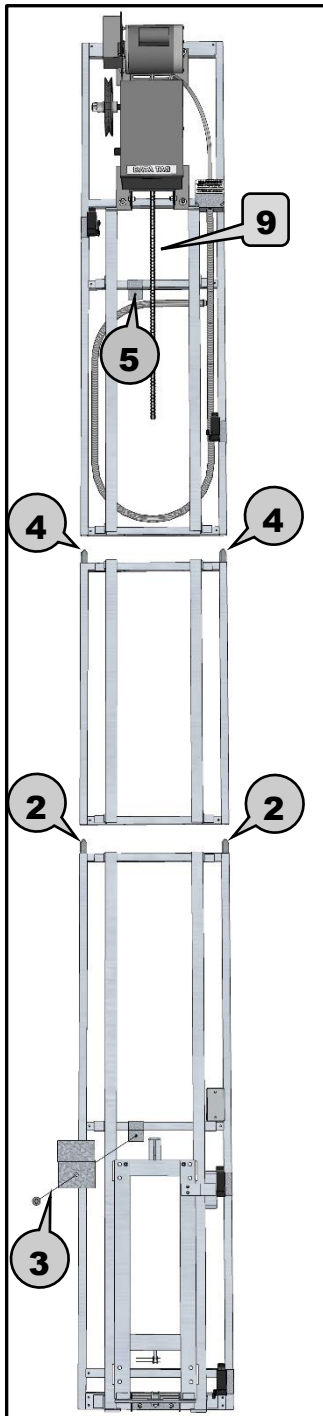

Figure 4
NOTE: For motor on top configuration, make sure the chain bundle is positioned down the track & rail in between track and not behind rail. (see Page 11, Figures 4 & 5, 9)
- 2** Drop two (2) stacking pins into the top of the two outer vertical tubes of the bottom section, and position section centered against the mounting wall. (**see Figure 4**)
- 3** Use provided frame clip and 2" screw to temporarily hold section in place against the wall. Make sure screws go into solid wood. (**see Figure 4**)
- 4** Drop two (2) stacking pins into the top of the two outer vertical tubes of the next section, and position section on top of previous section using the stacking pins to guide it into place centered against the mounting wall. (**see Figure 4**)
- 5** Use provided frame clip and 2" screw to temporarily hold section in place against the wall. Make sure screws go into solid wood. (**see Figure 4**)